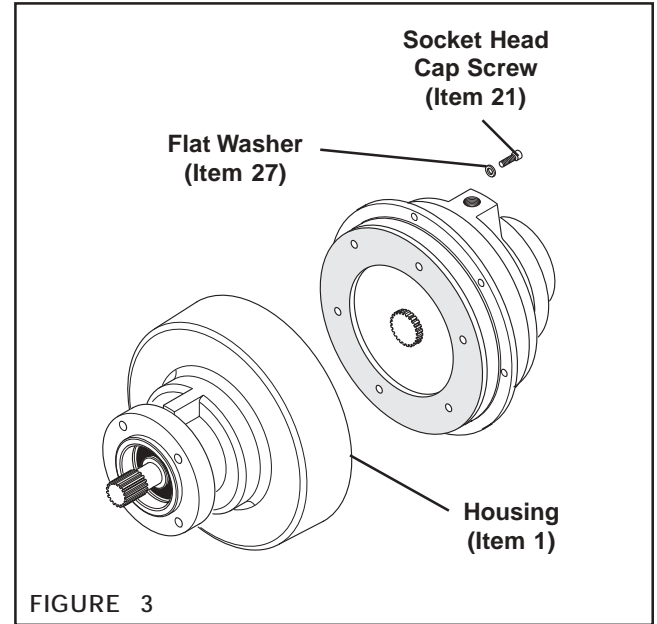

FIGURE 3
1. Remove the twelve Socket Head Cap Screws (Item 21) and Flat Washers (Item 27); then, remove the Housing (Item 1) (See Figure 3).